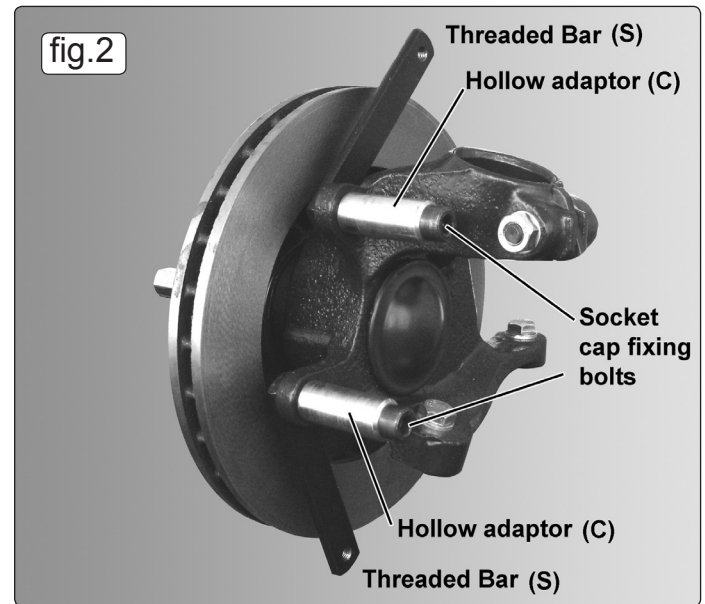

fig.2
Measure the size of the brake calliper mounting bolts: Outside size of thread is 8 mm, pitch of thread is 1.25 mm. Length with thread is 12 mm, then use adapter No. 1 (M8 x 1.25 mm L = 12 mm) If the calliper mounting holes are not threaded, use the hollow adaptors 'C' (adaptor No.7), the threaded bars 'S', and appropriate allen bolts (T, W, U, V) as shown in fig.2. Ensure that the threaded bars are positioned so as not to interfere with the travel of the lathe head cutters.
4.7.2 The adaptor arms are mounted on sliding tracks as shown in fig.5 and should be pushed as far forward as possible prior to mounting the head. Referring to fig.4, loosen the arm pivot lock nuts and the arm adjustment lock nuts and slide the arms forward as far as they will go. Half tighten the pivot lock nuts to stop the arms sliding back. Measure the distance between the centres of of the adaptors previously fixed to the calliper mountings (see fig.2). Adjust the opening of the adaptor arms to match the centres just measured and tighten the lock nuts.